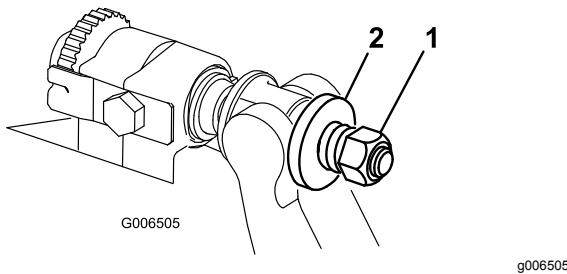

Figure 23
- 6. Tighten the spring tension nut until the spring is collapsed, then back it off 1/2 turn (Figure 23).